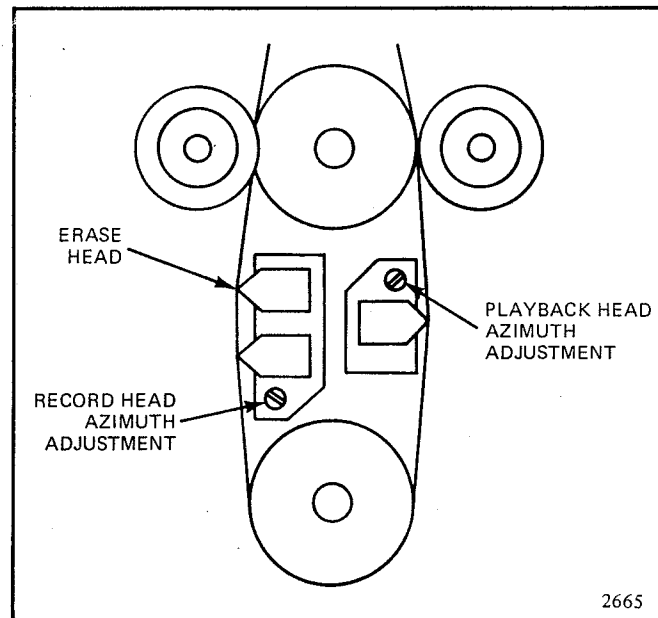

Figure 18. Record and Playback Head Azimuth Adjustments
14. Continue to play the 15 kHz test tone, and adjust the playback head azimuth adjustment screw (see figure 18) for a peak signal level on all VU meters. Care should be taken to ensure that the largest peak is found, as two lesser peaks may be noticed while performing this adjustment.